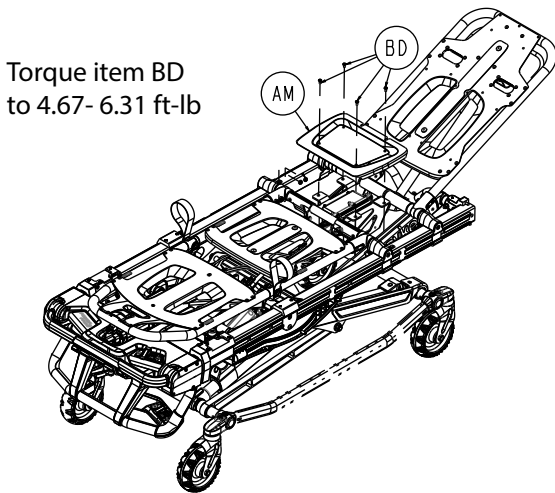

Figure 46 – Remove the seat skin screws
5. Using a T25 Torx driver, remove the four pan head thread rolling screws (BD) that secure the seat skin (AM) to the cot (Figure 46). Remove and save the seat skin. Save the screws.